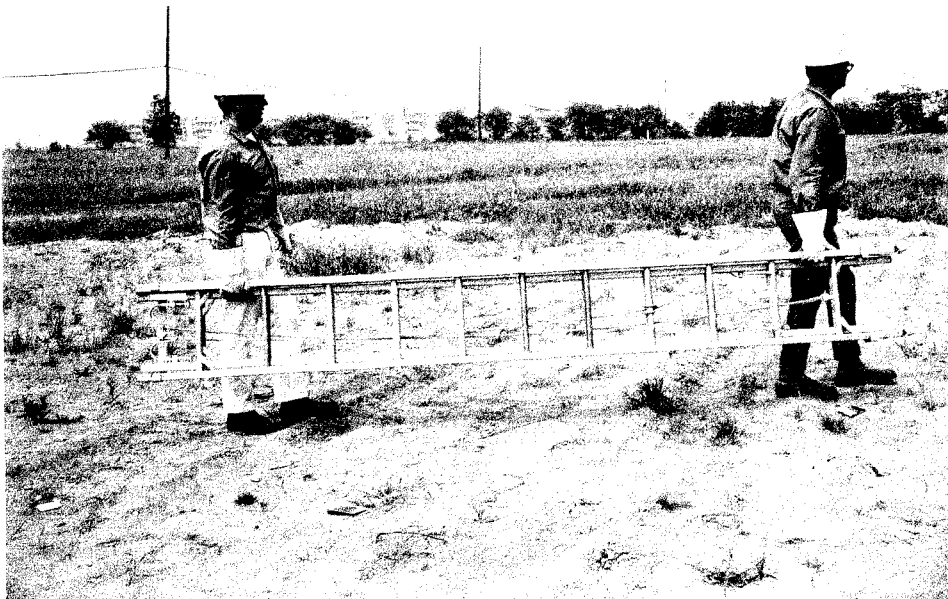

Fig. 37 — Two-Man Method of Carrying Ladder
- 9.09** To pick up a ladder, the two men take positions at opposite ends and, lifting together, lift the ladder to the position shown in Fig. 37. Carry the ladder with spurs forward.